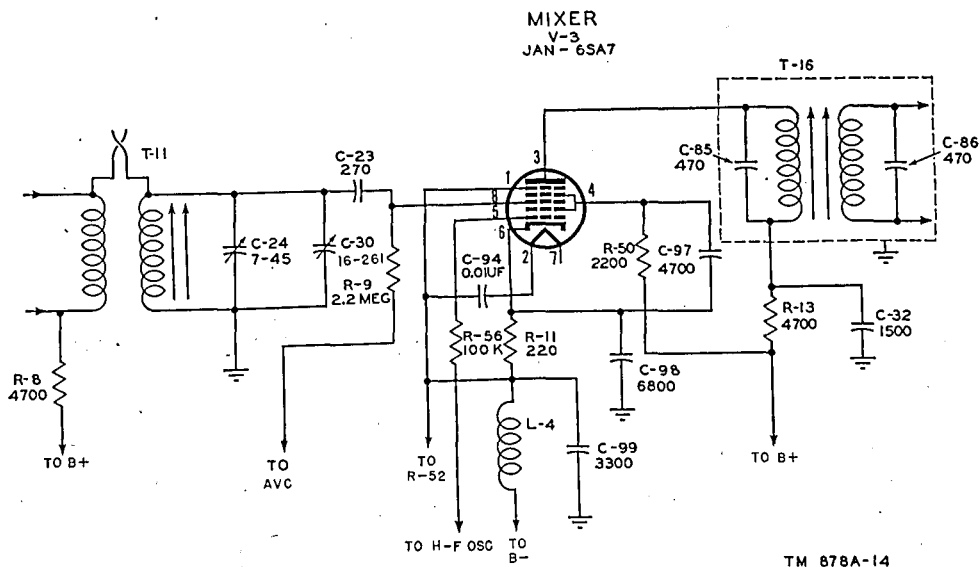

Figure 18. Simplified mixer, functional schematic diagram.
51. Mixer (fig. 18)
a. The mixer stage (V-3), shown in figure 18, is of the electron-coupled type which isolates the h-f oscillator signal and prevents it from being injected into the preceding stages. The received (and amplified) r-f signal is brought into the mixer control grid (pin 8) through capacitor C-23. The control grid is coupled to the ave line through decoupling resistor R-9, which also acts as a part of the d-c return path for the control grid. A negative bias is created for necessary tube biasing by the cathode current flowing through cathode resistor R-11. R-f choke L-4 is in series with the ground end of cathode resistor R-11, and the combination is bypassed to ground by cathode bypass capacitor C-98 and r-f filter capacitor C-99; this combination forms an effective r-f filter. Resistor R-56 is the grid (pin 5) resistor